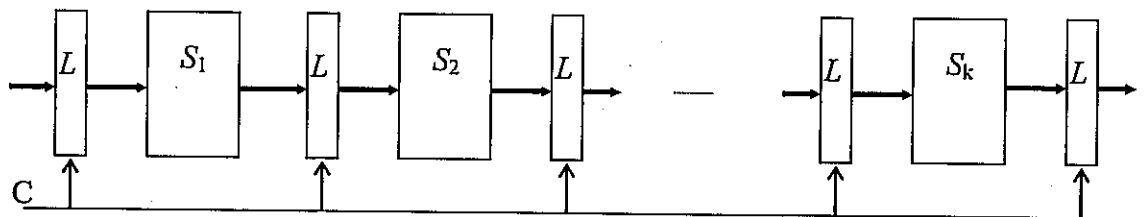

Fig. 4.1 Linear pipeline with k stages.
4. The Fig. 4.1 shows a linear pipeline with k stages (S_i) separated by latches (L). Common clock (C) is applied to all latches simultaneously. Each stage S_i has a time delay τ_i , where $i=1,2,\dots,k$.